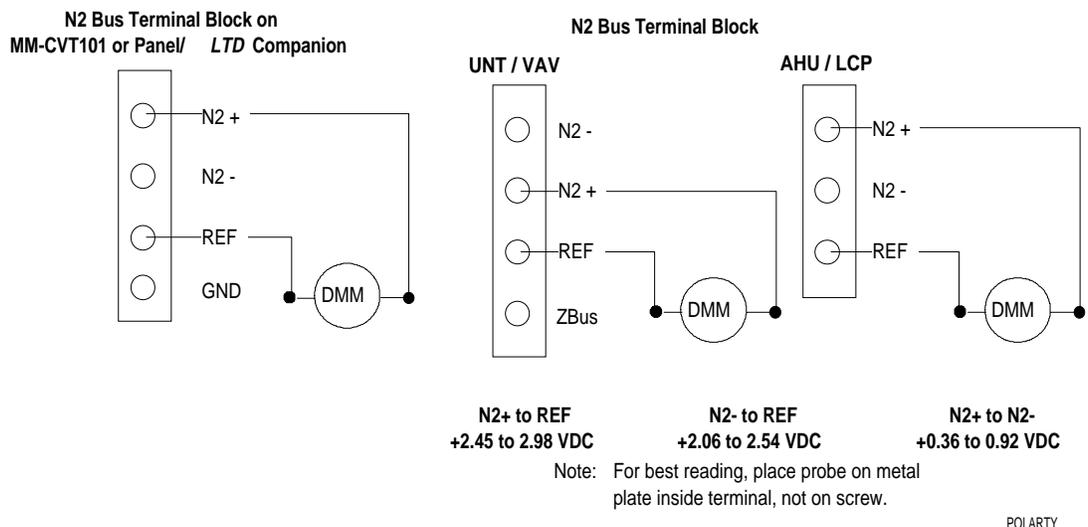

Figure 14: Test for N2 Bus Shorts, Crossed Wires, Grounds
Follow these steps, referring to Figure 14:
2. Connect the DMM across the N2+ and REF screws on the N2 terminal block (Figure 14). Write down the DC voltage reading. Repeat for N2- and REF, then for N2+ and N2-. Compare the voltages you read on the DMM to the following values:
3. Check the voltage and polarity of the N2 DC bias voltages at the ASC. Do so by connecting the DMM across N2+ and REF (Figure 14). Write down the reading. Repeat for N2- and REF, then for N2+ and N2-. Compare the voltages you read to the following values: